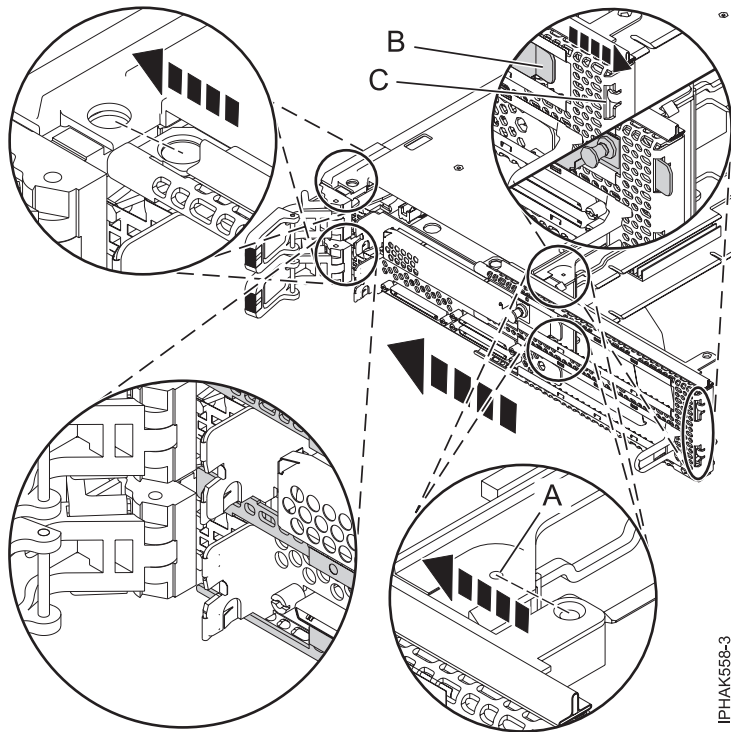
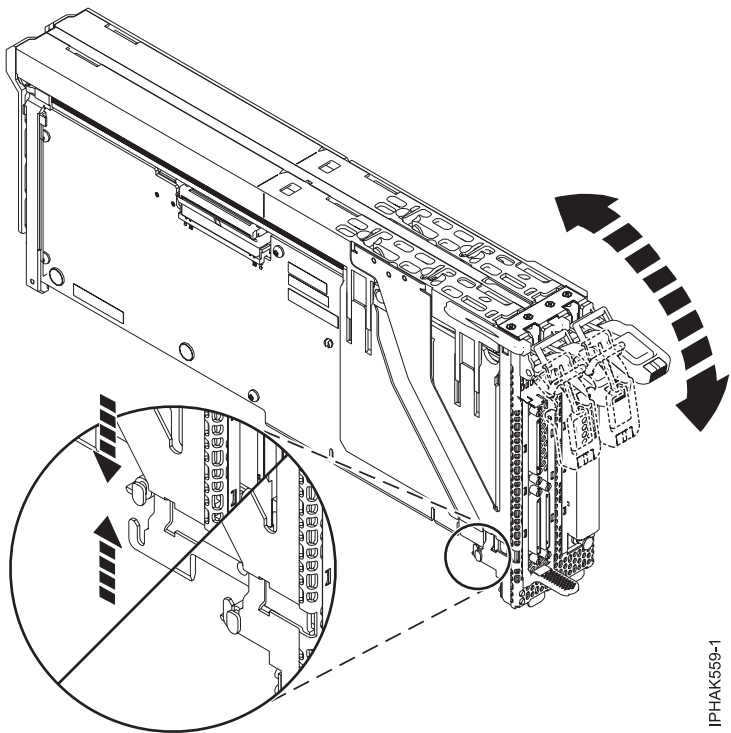

Figure 59. Attaching the face plate
Figure 60. Attaching the face plate
7. Attach the face plate to the front of the cassette assembly as shown in Figure 59 on page 75. Then, insert the tab at the bottom of the cassette cover assembly into the notch on the face plate as shown in Figure 60 on page 75.